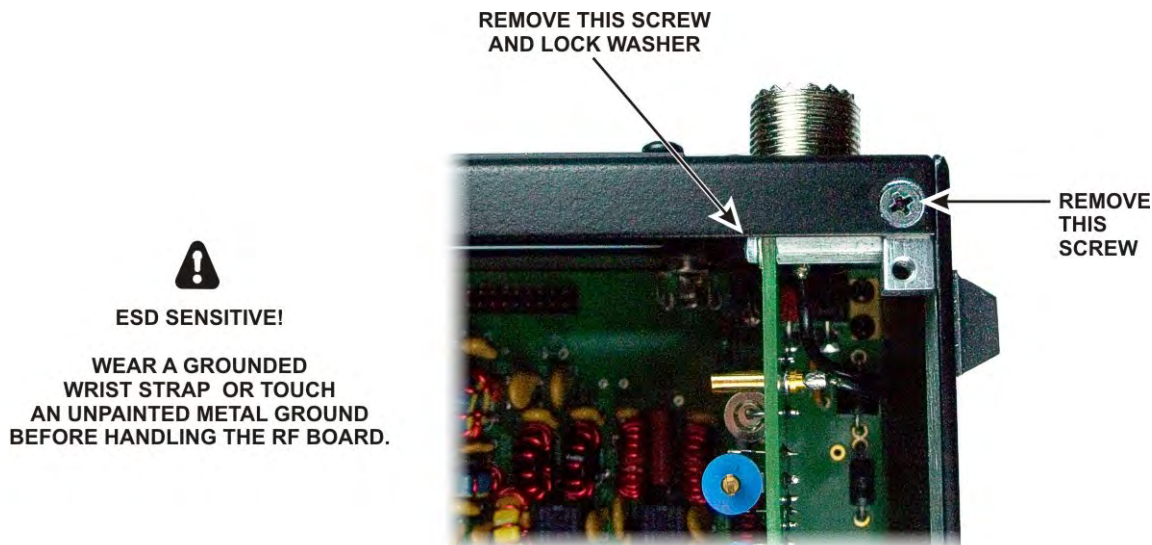
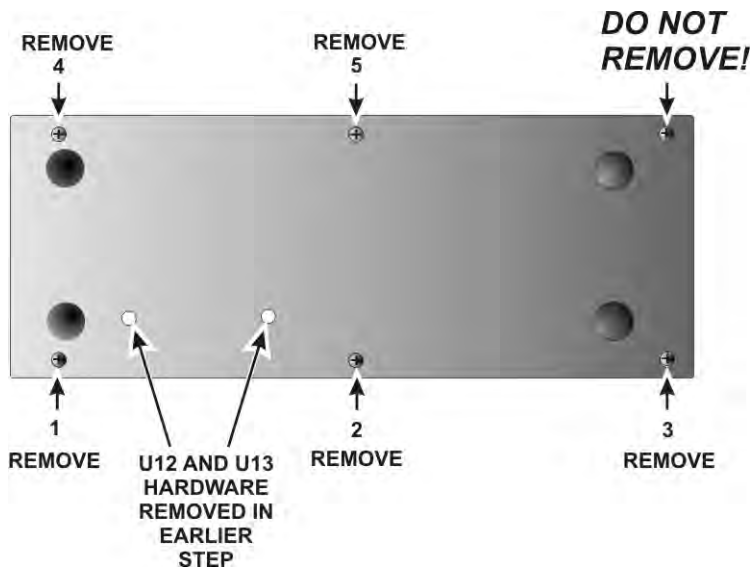

Figure 31. Removing Side Panel Hardware, Part 1.
Figure 32. Removing Side Panel Hardware, Part 2.
Remove the screw holding the KANT3 (or, if installed, the optional KAT3) board to the standoff and the screw holding the 2D fastener to the rear panel near the SO239 antenna connector shown in Figure 31. Do not lose the lock washer inside the K3. It is easier to keep the hardware from falling inside if you set the K3 on its side feet and remove the screw and lock washer holding the KANT3 or KAT3 board first, then set it on its bottom feet and remove the flat head screw from the 2D fastener.
Remove the five screws shown in Figure 32 from the right side panel to release it. Screw 5, which holds the end of the stiffener bar, already will be out if you're performing the initial installation of the KRX3. The side panel will lift off with the 2D fastener and standoff shown in Figure 31 attached.
- Replace the right side panel on the K3, installing the 4-40 3/16" flat head screws shown in Figure 32 except for screw number 5. It will be replaced later with the stiffener bar.
- Replace the 4-40 1/4" (6.4 mm) zinc pan head screw and washer that holds the KAT3 board to the standoff as shown in Figure 31.
- Replace the 4-40, 3/16" (4.8 mm) black flat head screw that secures the back panel to the 2D fastener as shown in Figure 31.